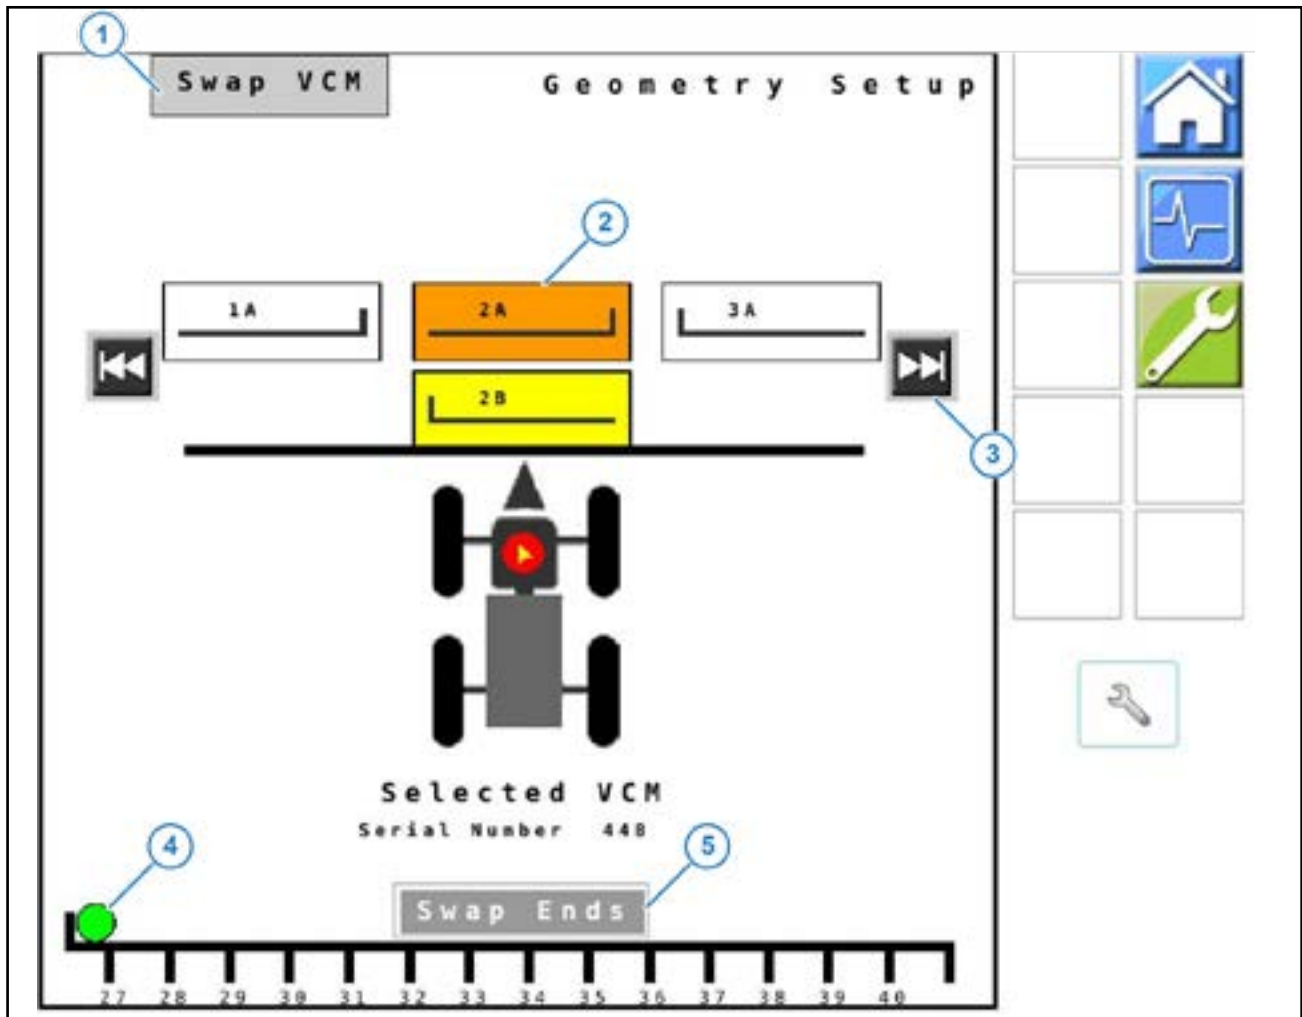

Figure 19: Geometry Setup - Legacy VCMs
2. If there are two VCMs on one section, you can change their positions. A Swap VCMs icon will show at the top of the screen (Figure 19, Item 1). To do this, tap one of the VCMs (will highlight yellow); tap the other VCM (will highlight orange); tap the Swap VCM button.
3. If the orientation on a VCM (Figure 19, Item 2) is incorrect, select Swap Ends (Figure 19, Item 5) to change which end the VCM (Figure 19, Item 4) is on.
4. Select  (Figure 19, Item 3) to go to the next VCMs in sequence.